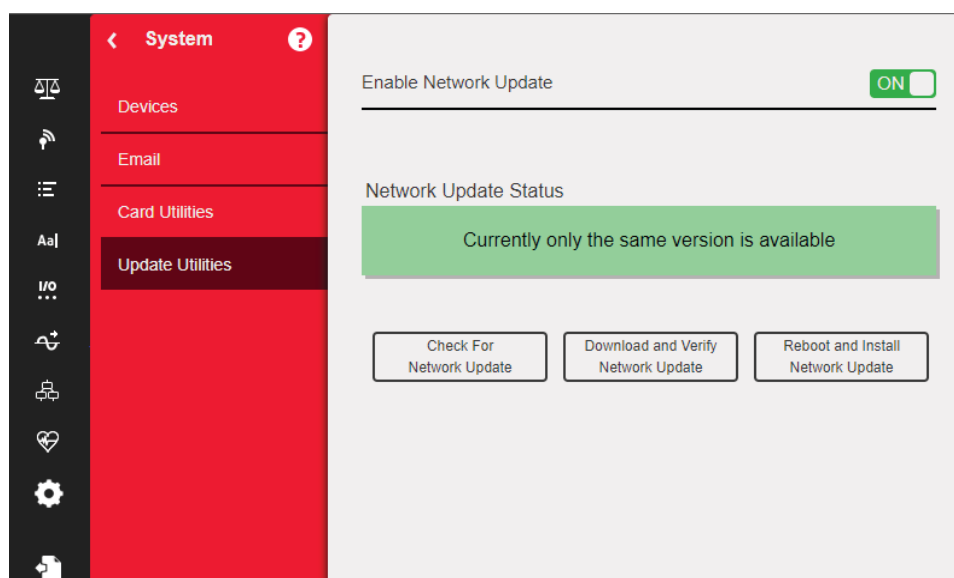

Figure 14-17. Network Updates Menu
1. From the Systems Setting menu, select Update Utilities (see Figure 14-17).